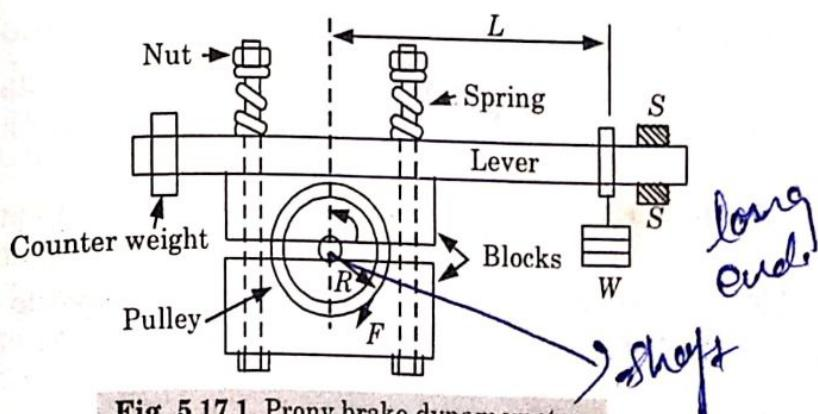

Fig. 5.17.1. Prony brake dynamometer.
1. It consists of two wooden blocks placed around a pulley fixed to the shaft of an engine whose power is required to be measured. The blocks are clamped by means of two bolts and nuts, as shown in Fig. 5.17.1.